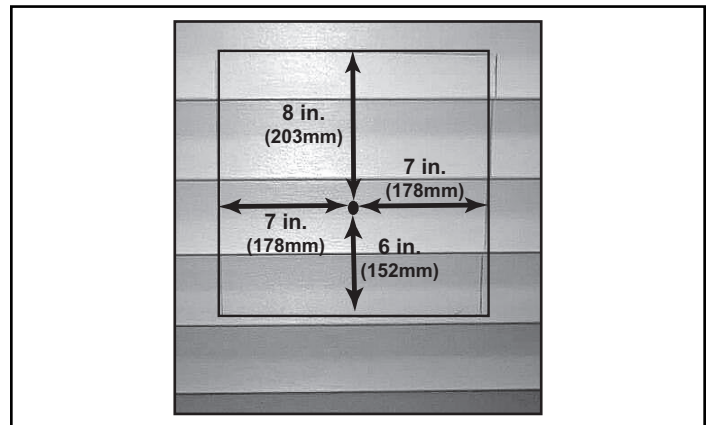

Figure 5.7
2. Termination cap HHW2 (Part #841-0670) is highly recommended on a building with vinyl siding, as the vinyl siding standoff is built in. The pilot hole will be 2 in. (51mm) closer to the bottom of the square than the top. Using a framing square, draw a 14 in. x 14 in. (356mm x 356mm) square around the pilot hole in the siding. See Figure 5.7.